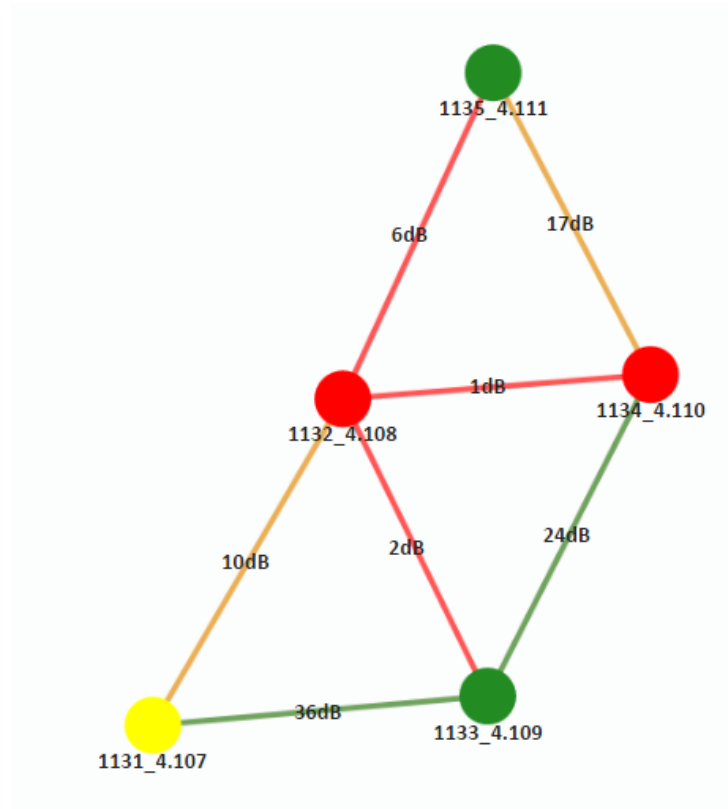

Figure 50 Example Network Topology
- **Color Coded Link Health** – Color coding of each link in the network allows the user to quickly identify the weak links within a network. A link between two nodes will transition from green to yellow to red as the link weakens while also displaying the SNR of the link. This can be seen in **Figure 50**.
- Route Health** – The Silvus StreamScope Utility will alert the user when too many packets are being routed through a single node. In such cases, a node will change from green to yellow to red as the packet queue increases (see ‘1132\_4.108’ and ‘1131\_4.107’ in **Figure 50**). This will allow the user to recognize the issue and rearrange the network accordingly. Table below also shows the values for each scenario.